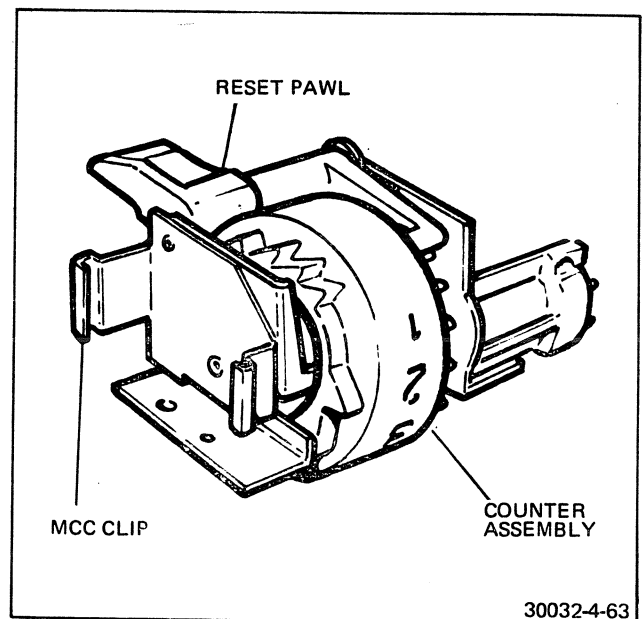

FIGURE 4-63 RESET PAWL
31. Identify the reset pawl, Figure 4-63. A narrow groove can be found across the end of the reset pawl. Place this groove over the end of the reset-pawl spring and move the counter assembly into place. The counter assembly mounting bracket is provided with four holes; two for the locating pins and two for the mounting